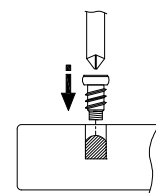

Fig 2.
- Fill the reverse face bracket holes with 2 part epoxy adhesive. Push (non wooden worktops) or screw (wooden worktops) the inserts fully into the holes, let the adhesive cure before any further assembly. Note: If screwing in the inserts; use the bolt inside the insert to help drive the insert in, as shown in fig 2. Unscrew the bolt once the insert is securely in the hole leaving the insert behind.